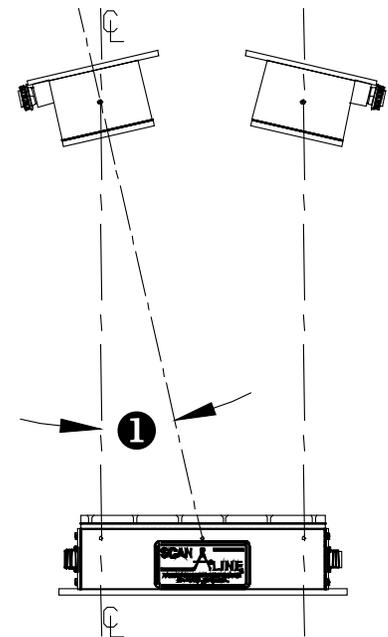

Figure G.4-4: Receiver Tilt Angles
*Table G.4-2: Receiver Tilt Angles for Model 10XRA Receivers for 10XBR-Series Sensors (Dimension 1 in Figure G.4-4)*
- 4) Adjust the receiver tilt angle on the mounting fixtures for your required emitter-to-receiver separation {Figure G.4-4 & Table G.4-1} and tighten all fixture bolts securely.